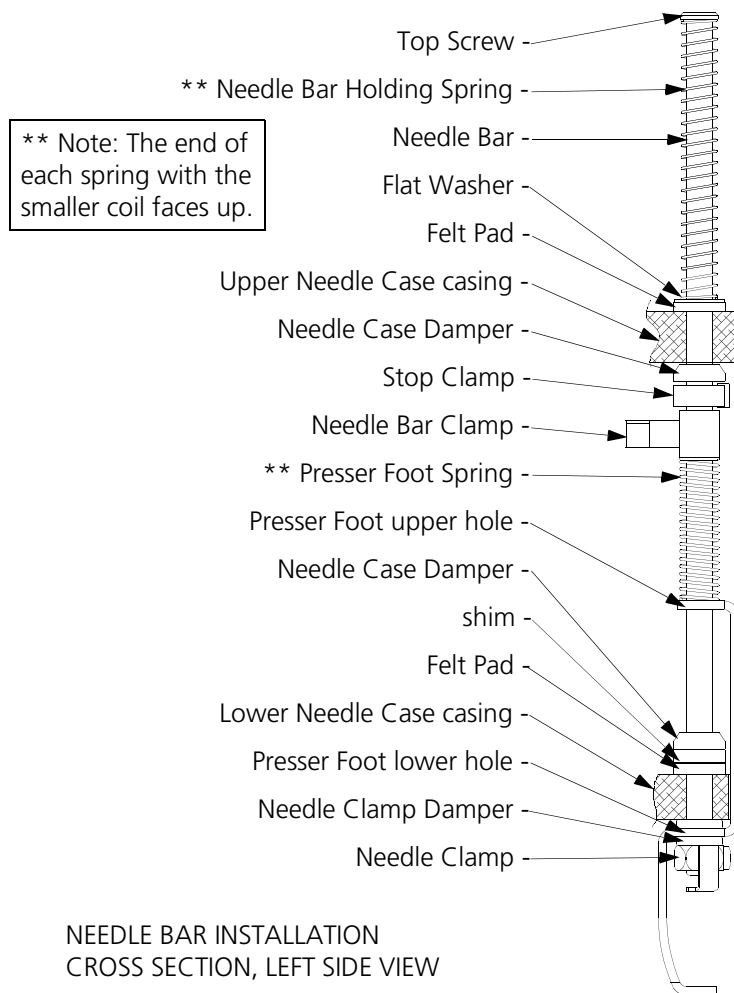

Figure 3-16
6. Refer to Figure 3-16 and then loosen the needle clamp set screw and remove the needle, needle clamp, and needle clamp damper from the bottom of the needle bar.
8. Loosen the top screw (see Figure 3-16) on the needle bar. (You will remove and transfer the screw in step 11.)
12. Install a new needle bar by inserting it from the top of the needle case and through the various pieces in the order shown in Figure 3-16.